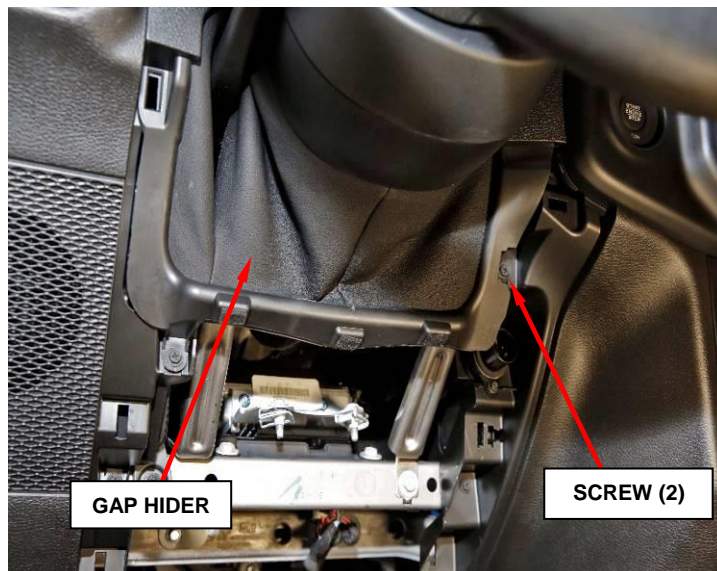

Figure 6 – Gap Hider
- Using a trim stick or equivalent disengage gap hider retaining clips and remove (Figure 6).
20. Align the retaining clips and install the gap hider (Figure 6).